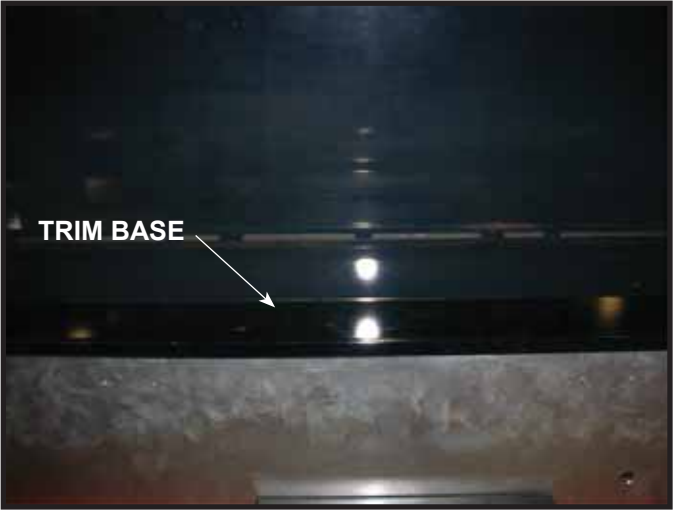

Figure 14. Porcelain Trim Base Installed.
- Place outside front trim base onto shelf. Place so the cutouts are in line with the outside edges of the glass frame. See Figure 14.